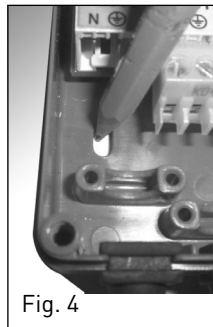

Fig. 4
- mark the reference points for the position of the two wall plugs (fig. 4), drill holes in the wall and fit the wall plugs.